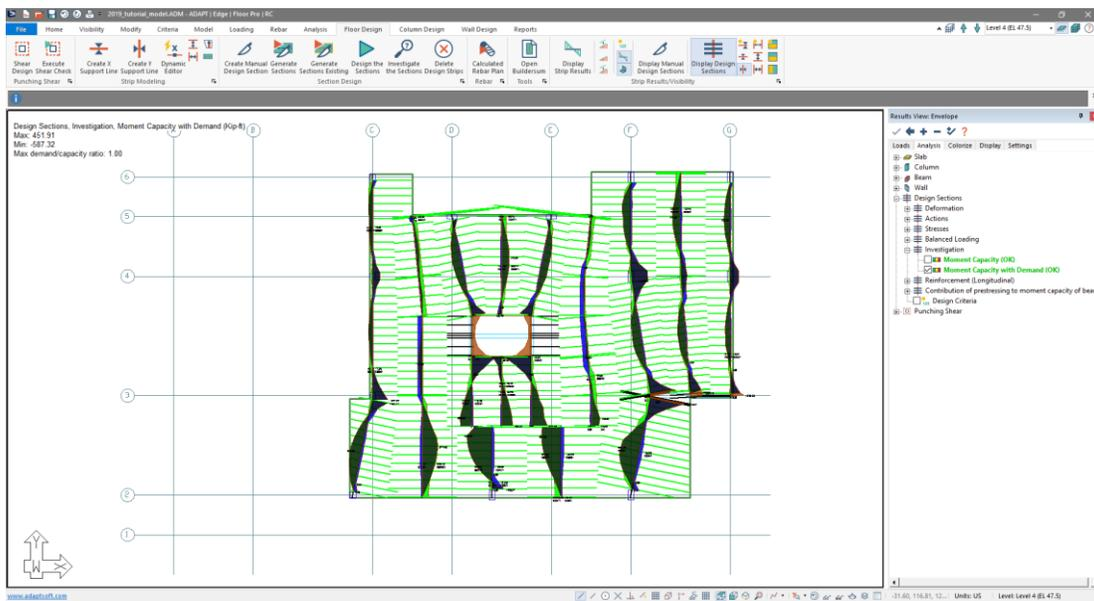

Figure 10-34
- Go to *Floor Design* → *Strip Results/Visibility* click on the *Display/Hide Support Lines in the Y-direction*  icon to turn on the support lines in the Y-direction. The user should now see the Moment Capacity Check along the Y-direction support lines as shown in **FIGURE 10-34**.